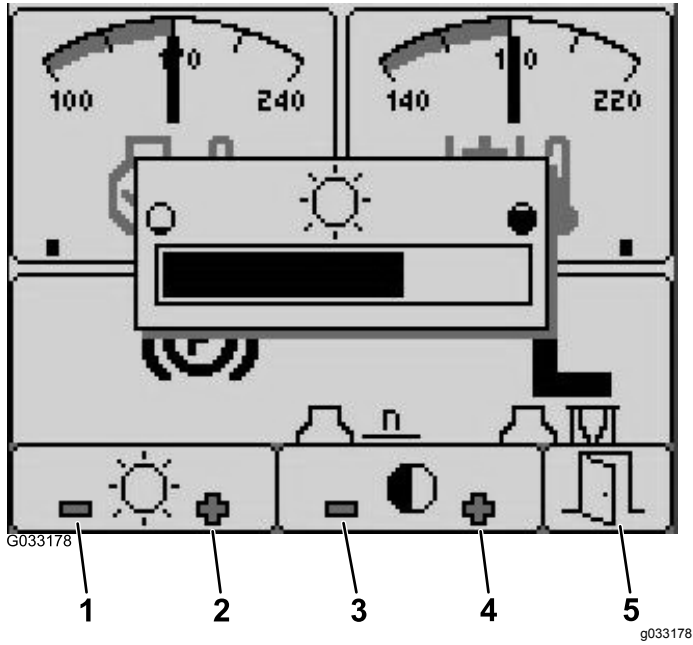

Figure 27
1. From the start-up screen, press button 5 to access the brightness/contrast pop-up-menu bar (Figure 27).
2. Press button 1 to decrease brightness, button 2 to increase brightness, button 3 to decrease contrast, and button 4 to increase contrast (Figure 27).
3. When you have set your brightness/contrast, press button 5 to exit (Figure 27).